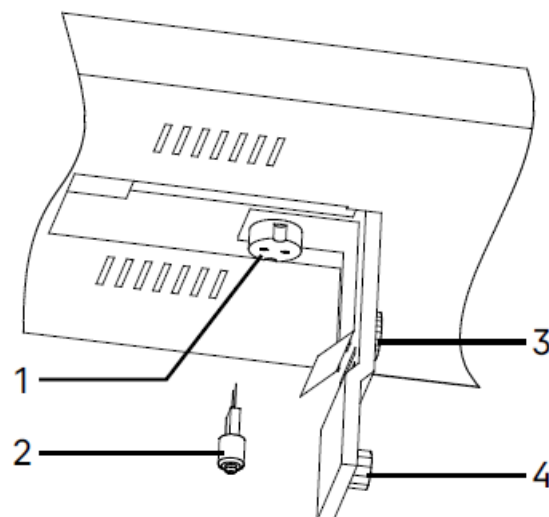

Fig. 21. Replacing the transmitted light bulb
- loosen screw 4 and open cover 3, as shown in Fig. 21